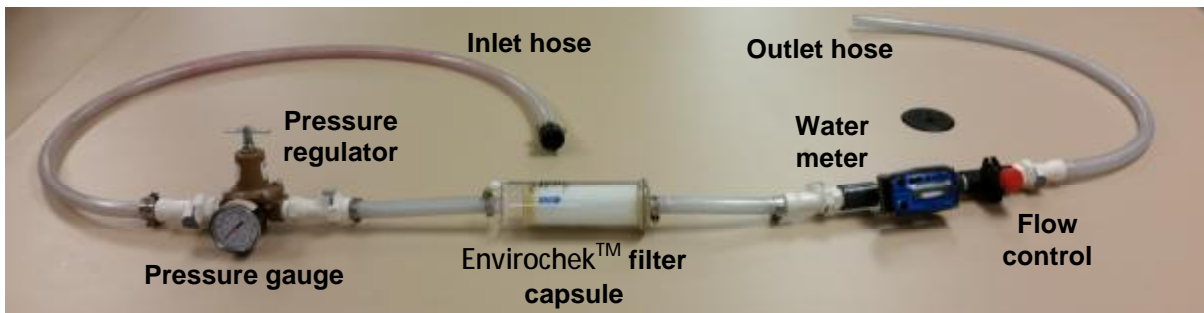
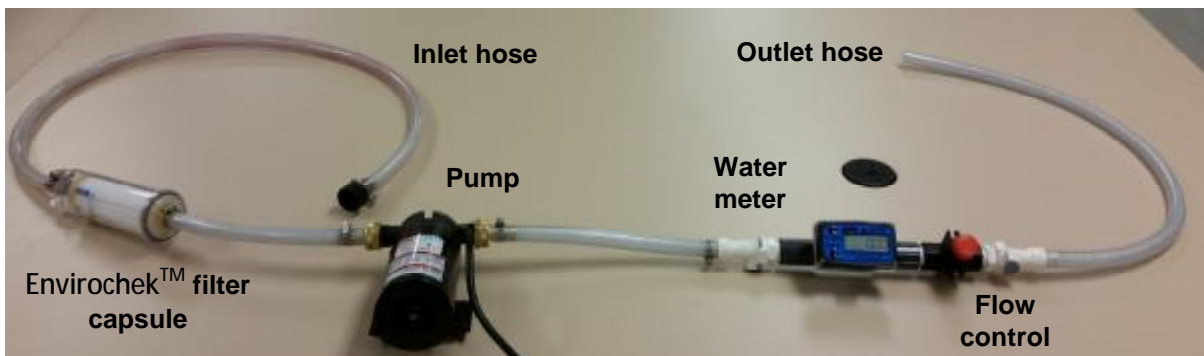

Fig. 1 Field filtration unit for pressurized water sources
Fig. 2 Field filtration unit for unpressurized water sources
EMSL Field Filtration Unit (optional, Fig. 1) includes:
1. For pressurized water sources, connect the field filtration unit (Fig. 1), without the Envirochek™ filter, to the water source. Adjust the pressure to below 60 PSI using pressure regulator and to a flow rate no greater than 2.0 L/min (0.5 G/min) using flow control knob. Flush the sampling unit for 2-3 minutes (or 2- 10 L of sample water). The water meter functions as both a totalizer and flow rate meter. Alternate functions by pressing the "DISPLAY" button. Select the desired units (gallon (GL), liter (LT), or cubic foot (CF)) for the totalizer by pressing "DISPLAY" when "CALIBRATION" is pressed.
2. For unpressurized water sources, connect the field filtration unit (Fig 2), without the Envirochek™ filter, to a carboy with 30+ L water. Adjust the flow rate to no greater than 2.0 L/min (0.5 G/min) using flow control knob. Flush the sampling unit for 2-3 minutes (or 2- 10 L of sample water).
3. Insert and connect the filter capsule into the filtration unit (Fig. 1 or Fig. 2). Ensure the directional flow arrow is pointing toward the water meter. Use clamps to secure the inlet and outlet if needed.